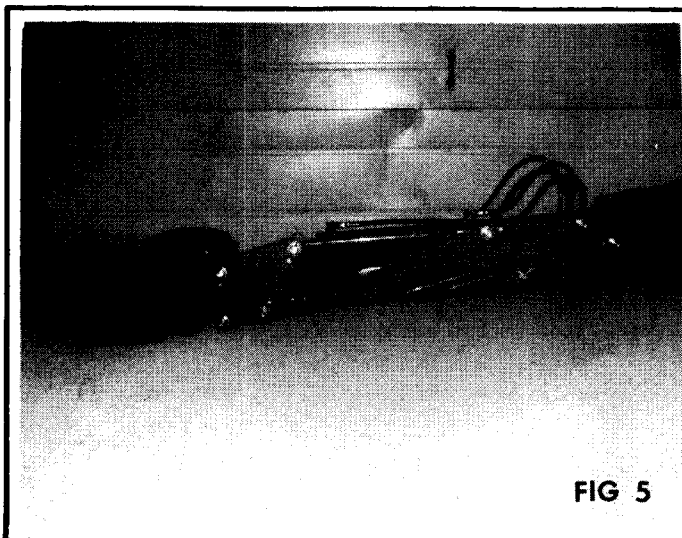

FIG 5
3. Stretch out the boom, dipper arm, and bucket, as shown in Fig 5 and 6. Lower the bucket to the ground so that it rests there solidly.
4. Place suitable blocking under the backhoe frame to support it adequately, as shown in Fig 5 and 6.
6. Gently lower the backhoe onto the blocking as shown in Fig 5 and 6. Leave the stabilizers outstretched and firmly in contact with the ground for added stability.